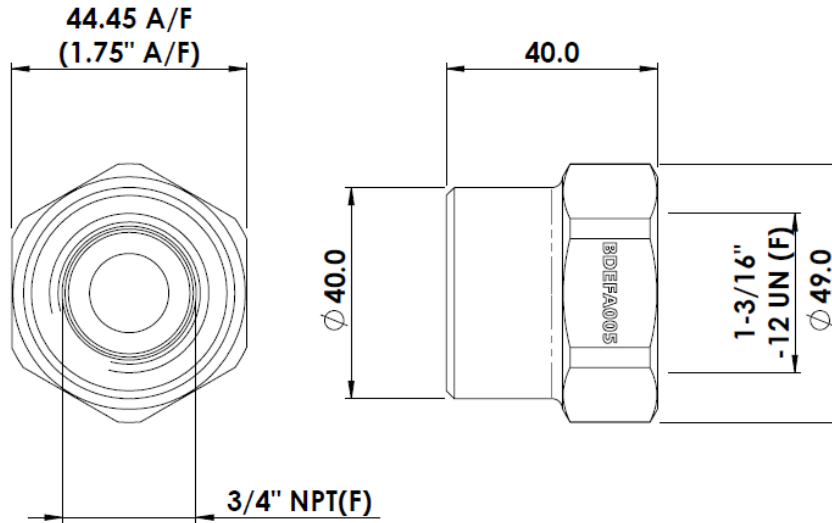

Figure 18 – Details of BDEFA005 Adaptor
| BDEFA005 (Figure 18) | Adaptor, DEF, 1-3/16" -12 UN(F) x ¾" NPT(F) | ¾" NPT(F) 1-3/16" -12 UN female | Adapts Banlaw DEF receiver to Hartmann DEF valve |